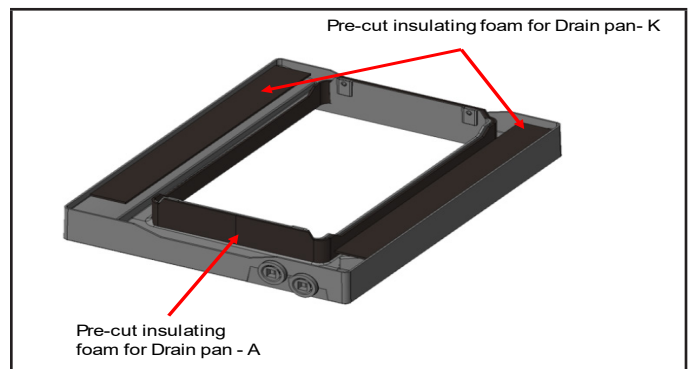

FIGURE 8.
- 1 - Install the kit provided insulating foam tape (Part A) and (Part K, two each) to the drain pan (FIGURE 8)
- 1 - Place the insulated drain pan (FIGURE 8) on a stable surface, facing up.